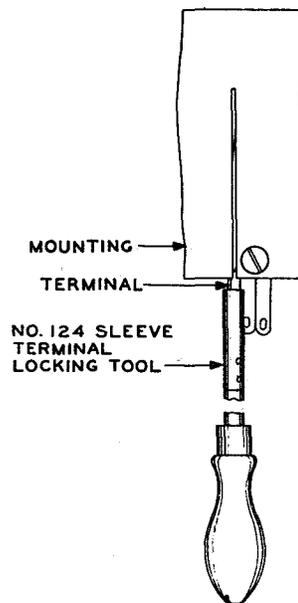

FIG. 9 - METHOD OF LOCKING SLEEVE TERMINAL WITH NO. 124 SLEEVE TERMINAL LOCKING TOOL
3.17 On 49 type jacks, twist that portion of the sleeve terminal extending in back of the mounting by applying the No. 124 sleeve terminal locking tool over the terminal as far as possible and holding the terminal down in the slot in the rubber mounting as shown in Fig. 9. Turn the locking tool 90° in a counterclockwise direction.